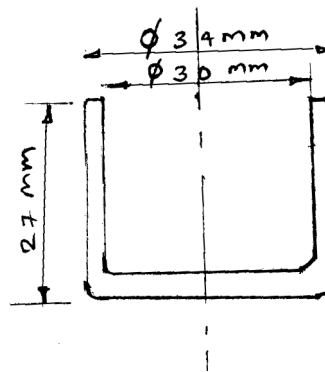

Fig. No. 1
- Utilise appropriate guide pillar and bush for the designing or mold for Fig. No. 1.